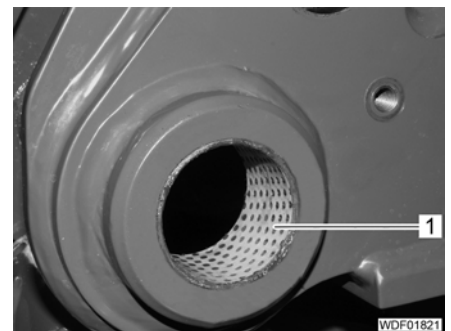

Fig. 566 Front bearing in the telescopic arm
- Raise and tip out telescopic arm so far that the bearing (Fig. 566,1) is free.